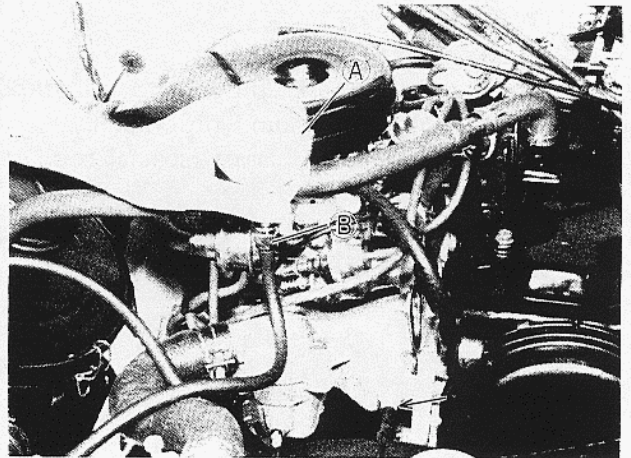

Fig. 3-8-10
- 2) Install vacuum gauge (A) (09915-67310), as shown in Fig. 3-8-10. Install engine tachometer.